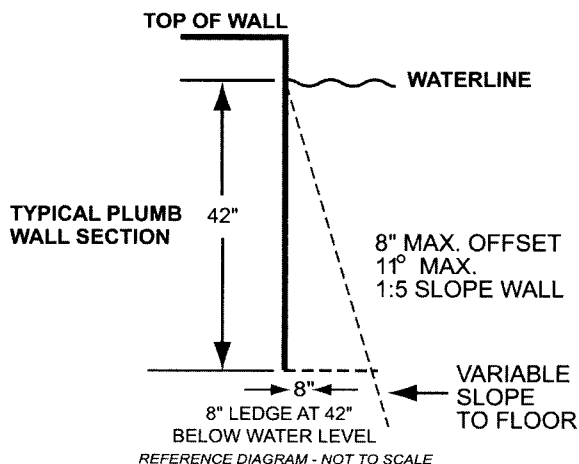

Figure 4 – Offset ledges
5.5.1.1 Offset ledges, located less than 42 inches (1067 mm) below waterline shall be proportionately less than 8 inches (20.3 cm) wide and fall within 11° from plumb, measured from the top of the waterline. See figure 4.